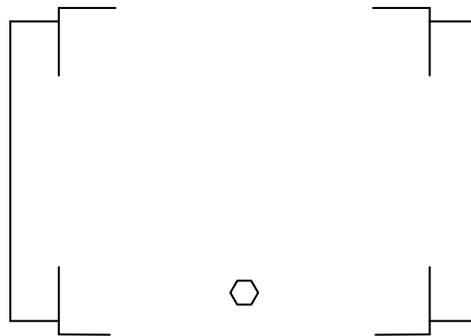

Figure 5-5: KC1000 Air/Fuel Valve In Ignition Position
- (a) The Air/Fuel Valve rotates to the low-fire ignition position and closes the ignition switch. The dial on the Air/Fuel Valve (Figure 5-5) will read between 25 and 35 to indicate that the valve is in the low-fire position.